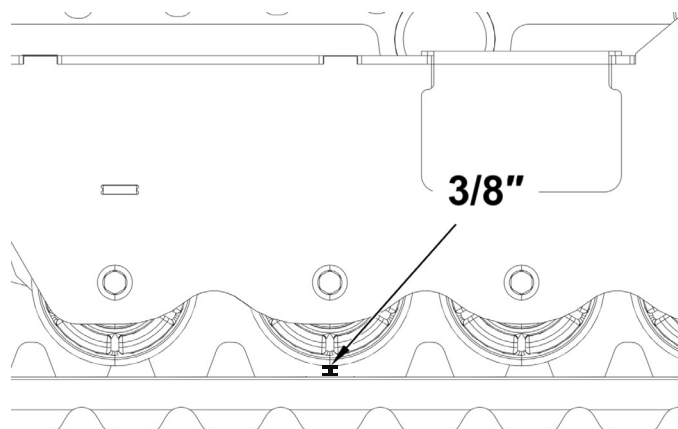

Figure 5-5. Track Sag Measurement
13. If the track sag is more than 3/8", follow Procedure A: "Tightening the Track Tension" to tighten the track. See Figure 5-5.
14. If the track sag is less than 3/8", follow Procedure B: "Loosening the Track Tension" to loosen the track. See Figure 5-5.